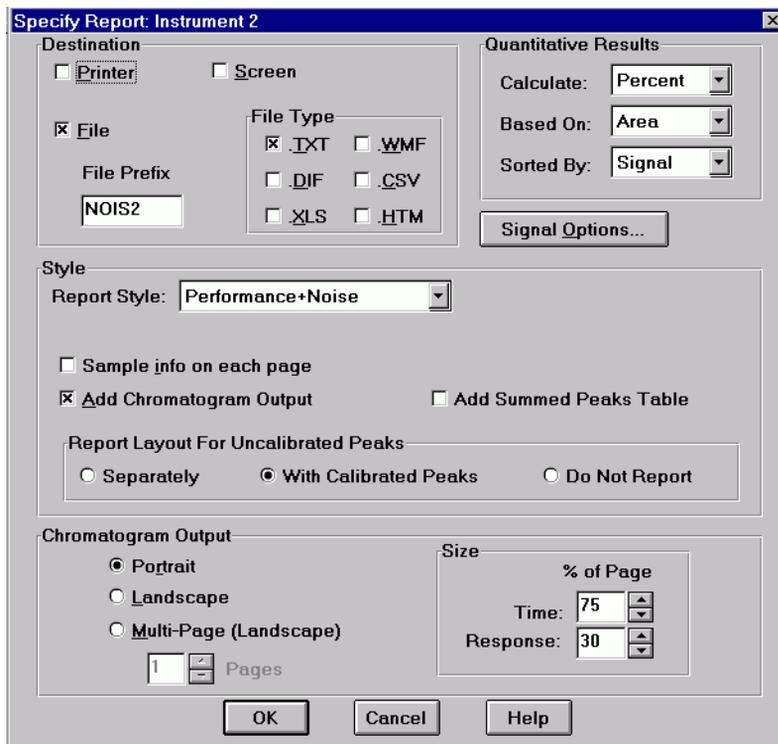

Figure 12 RID Baseline Check Out Report
- 5 Specify the report style Performance + Noise as shown in Figure 12